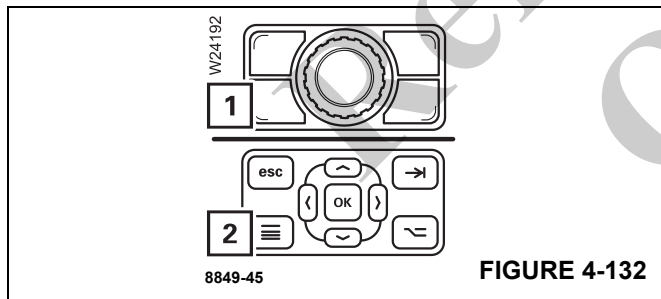

FIGURE 4-132
- To do so, open the main menu and press the button (1), (Figure 4-132) or (2), (Figure 4-132) once.